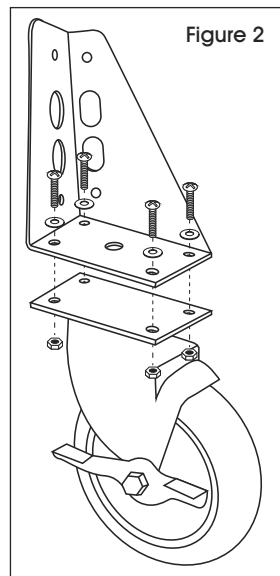

Figure 2
2. Attach swivel casters with nuts, bolts and washers. (See Figure 2)